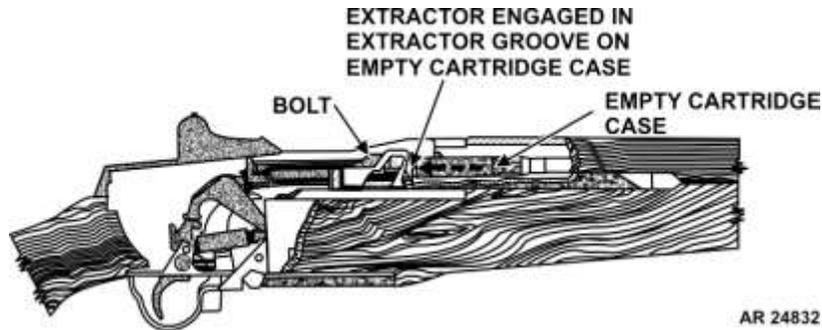

Figure 60 -Extracting
- 6) **Extracting:** Extracting is the pulling of the empty cartridge case from the chamber. The extractor, which is engaged with the extracting groove on the cartridge case withdraws the empty case as the bolt moves to the rear (fig 60).